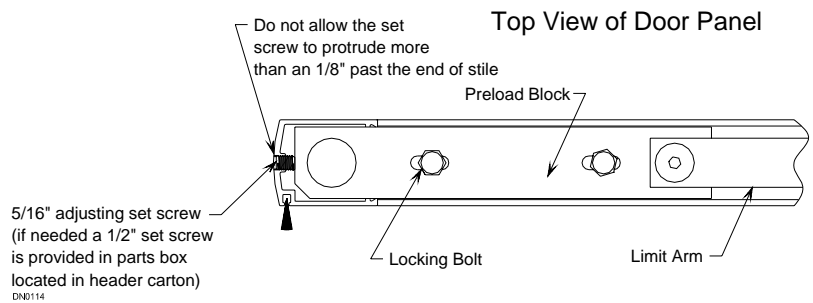

Figure 20
2. Loosen two locking bolts on block inside top rail of door (see Figure 20).